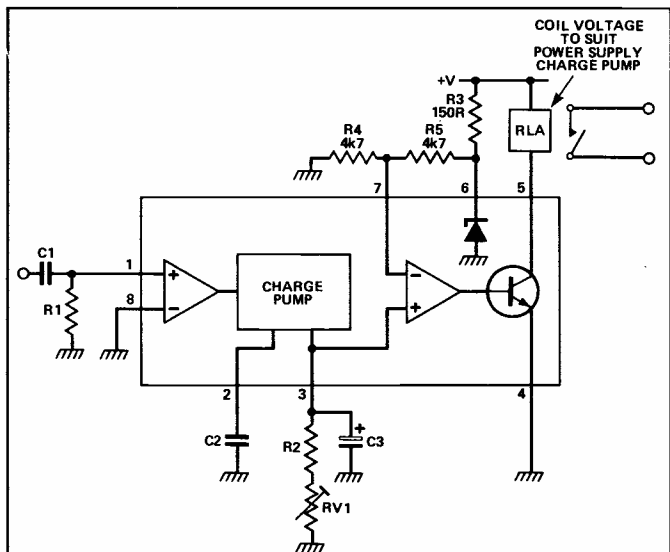

Fig. 6 The principle of the over-speed detector, or high-pass filter and switch.
1) Up to 40mA is available from the collector of the LM2917's output transistor — enough to trip a relay when, for example, an input frequency exceeds a preset value (Fig. 6). This could be used to detect a shaft rotating too fast (perhaps when over-revving a car engine). Certain types of sensor used in burglar alarms can be accidentally set off by traffic vibrations, which are generally at a lower frequency than those of interest for security purposes. The Fig. 6 circuit can detect vibration while tuning out unwanted frequencies. It could ignore mains hum but detect audio frequencies or detect the presence of an ultrasonic signal whilst ignoring audio frequencies.